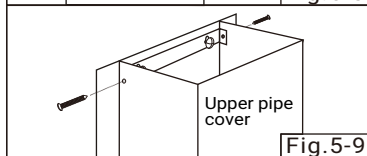

Fig.5-9
13. Install the upper pipe cover to support bracket by using 2 screws. (Fig. 5-9)